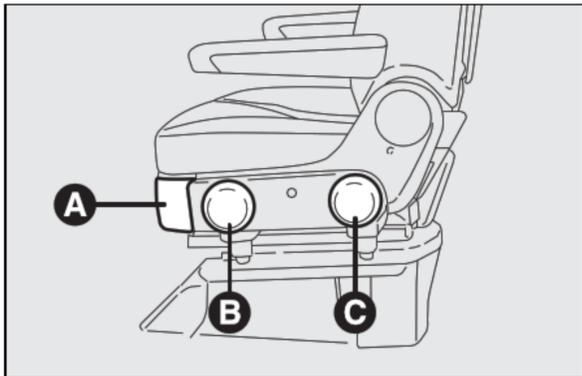

fig. 29
Operate lever **A**-fig. 29.
**Seat height adjustment fig. 29**